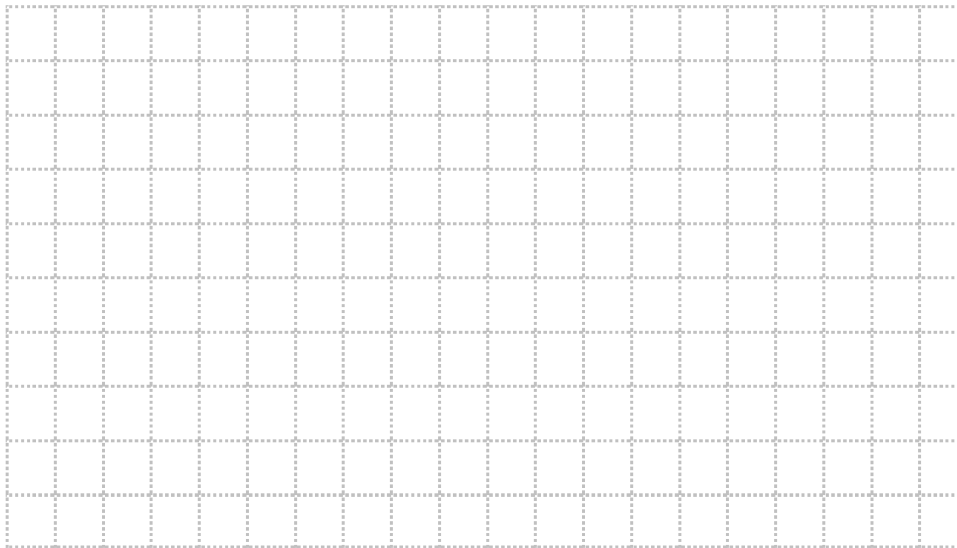

Figure 1-6. Flow rate versus speed curve.
- 15. Plot the flow rate versus speed (60 Hz \approx 3450 r/min) curve in Figure 1-6.